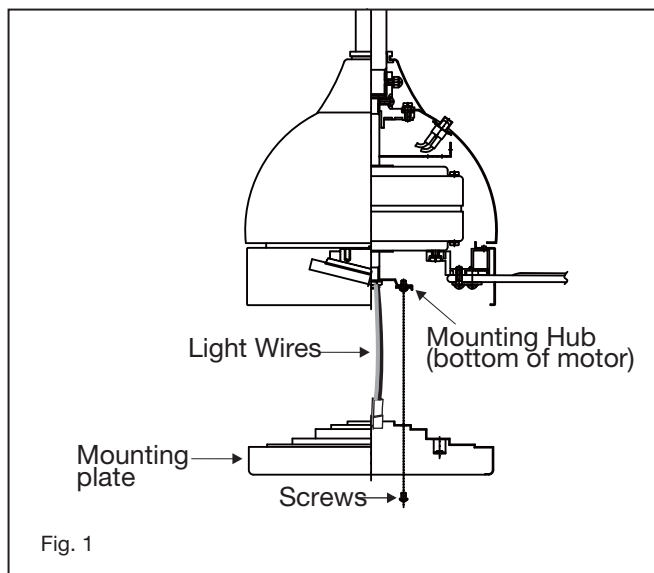

Fig. 1
- 1 Remove ball from downrod by loosening set screw in the side of the ball. Slide ball down and remove ball pin; remove ball. (Fig. 1)
- 3 **NOTE:** The Remote Control System is equipped with 16 possible frequency combinations to prevent interference from or with other remote control units. The frequency switches on your receiver and transmitter have been preset at the factory. Please recheck to make sure the switches on transmitter and receiver are set to the same position. Any combination of settings will operate the fan as long as the transmitter and receiver are set to the same position. (Fig. 1)
- 1 Remove one of the three screws on the mounting hub located on the fan motor. Loosen the other 2 screws. (Do not remove) (Fig. 1)
- 1 Remove the existing wall plate and the old switch from the wall outlet box. Wire nut the BLACK leads (hot) together and push back inside the outlet box. (Fig. 1)
- 2 Remove the face plate of the Wall Switch by lifting at the top and then insert the supplied 12V battery. Duracell MN21/Eveready A23/GP 23A all 12V. (Fig. 1)